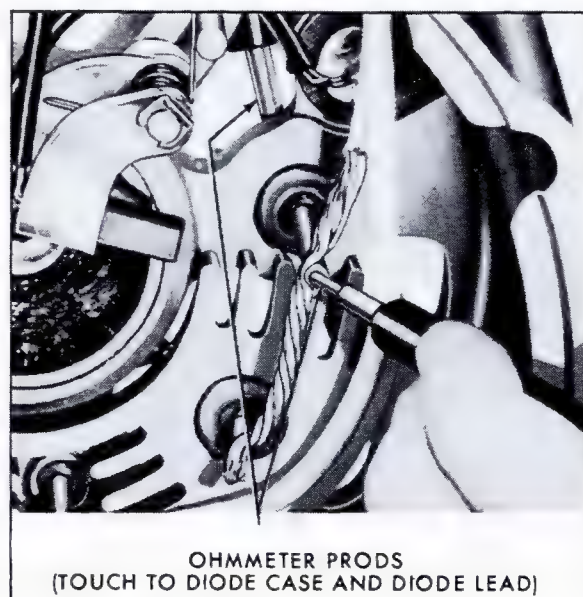
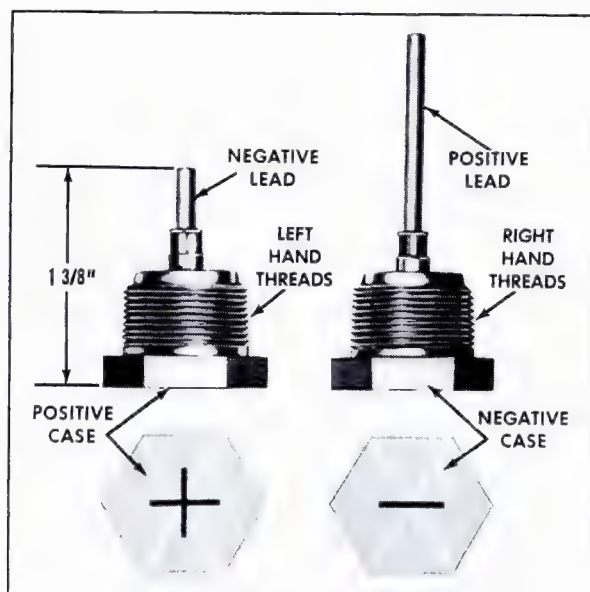

Fig. 6-42 Diode Checking
Fig. 6-44 Diode Polarity
2. Connect Test Light, J-21008, leads across each diode, first in one direction and then in the other, Fig. 6-42.
Diodes may also be checked for defects with an ohmmeter as shown in Fig. 6-42. To check each diode, connect one of the ohmmeter leads to the diode case, and the other ohmmeter lead to the diode lead, and note the ohmmeter reading. Then reverse the ohmmeter lead connections and note the reading. Ohmmeter readings may vary considerably when checking diodes, but if both readings are 300 ohms or less, the diode is defective. Also, if both readings are greater than 300 ohms, the diode is defective. A good diode will give one low and one high reading. When checking each diode, push and pull on the diode lead to catch loose connections, and use an ohmmeter with a scale on which the 300 ohm value can be accurately read.
**NOTE:** Replacement diodes have a long diode lead. If the diode is to be assembled into the heat sink it is necessary to cut off the diode lead to an over-all length of 1-3/8 inches, Fig. 6-44. To cut off the diode lead, hold the diode lead with ordinary pliers or vise grip pliers, and use large diagonal cutters or a hack saw, Fig. 6-42.